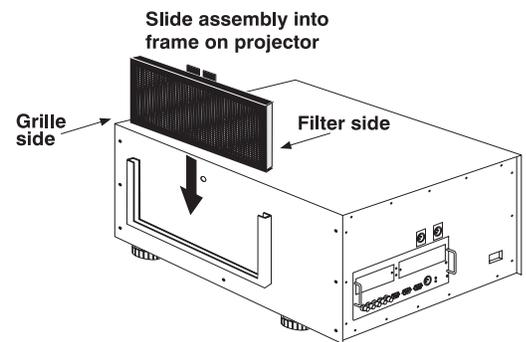

Figure 4.7. Install wire side IN
- See Figure 4.7. Slide the grille-with-filter into the frame on the projector.